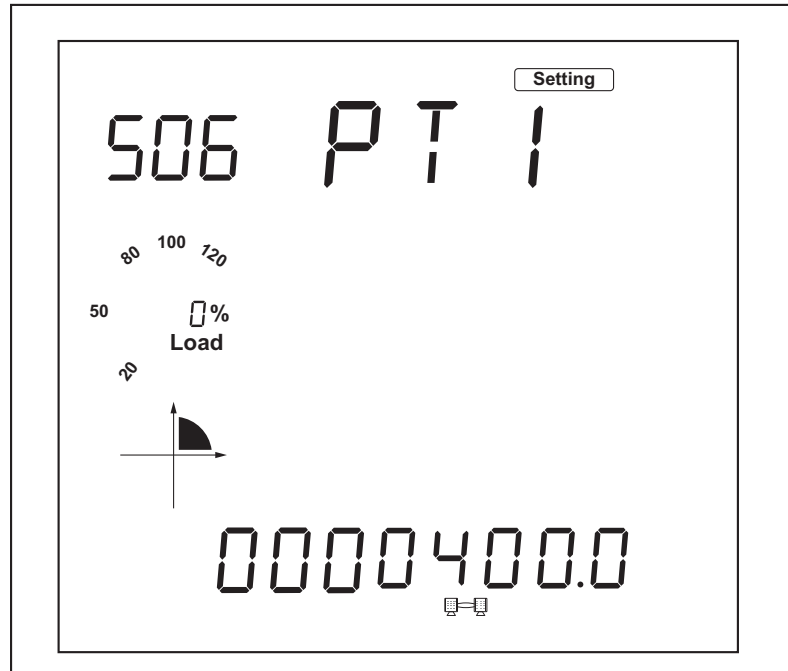

Figure 10: S06: PT1 screen
- Press **P** to get to screen S06: PT1 (Figure 10 on page 10).